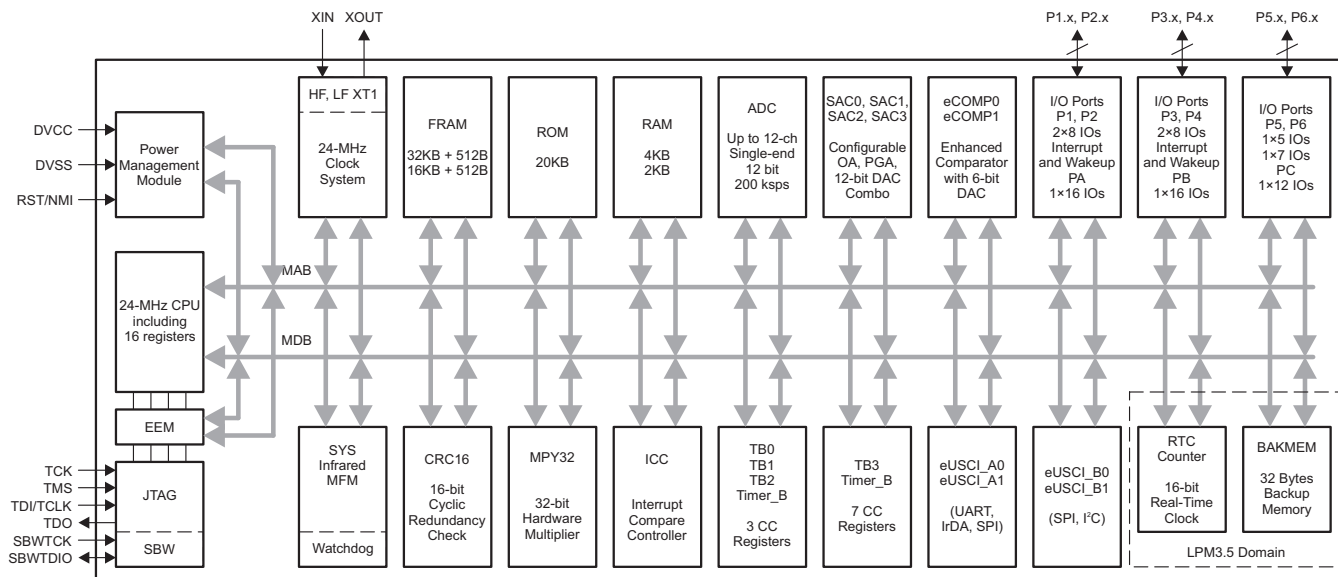
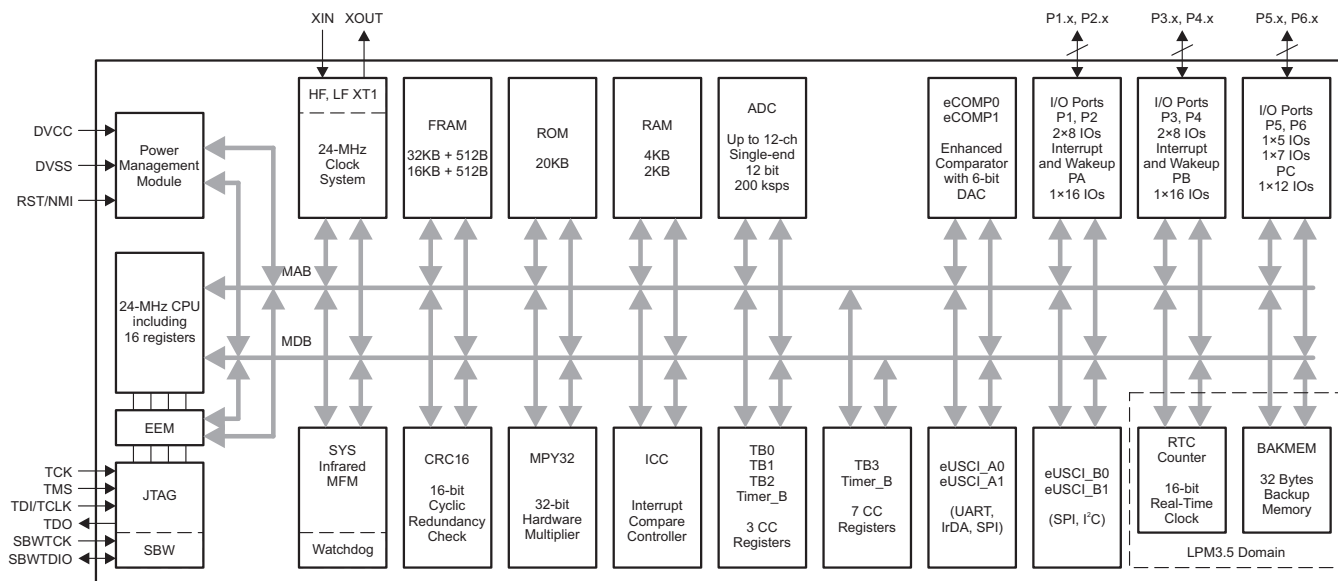

Figure 1-1. MSP430FR235x Functional Block Diagram
Figure 1-2. MSP430FR215x Functional Block Diagram
Figure 1-1 shows the MSP430FR235x functional block diagram.
Figure 1-2 shows the MSP430FR215x functional block diagram.
<ul style="list-style-type: none"> Corrected the ROM size in Figure 1-1 MSP430FR235x Functional Block Diagram and Figure 1-2 MSP430FR215x Functional Block Diagram..... Added a note on all VQFN pinouts to indicate that the thermal pad should be connected to VSS Corrected Figure 4-4, 32-Pin RSM (VQFN) (Top View) – MSP430FR235x..... Changed the note that begins "Supply voltage changes faster than 0.2 V/μs can trigger a BOR reset..." in Section 5.3, Recommended Operating Conditions Added the note that begins "TI recommends that power to the DVCC pin must not exceed the limits..." in Section 5.3, Recommended Operating Conditions Changed the note that begins "A capacitor tolerance of ±20% or better is required..." in Section 5.3, Recommended Operating Conditions Combined former sections 5.8 and 5.10 into Section 5.9, Production Distribution of LPM Supply Currents Corrected the "SVS disabled" condition for Figure 5-1 Added the note "See MSP430 32-kHz Crystal Oscillators for details on crystal section, layout, and testing" to Table 5-3, XT1 Crystal Oscillator (Low Frequency) Changed the note that begins "Requires external capacitors at both terminals..." in Table 5-3, XT1 Crystal Oscillator (Low Frequency) Added the $t_{TB, cap}$ parameter in Table 5-13, Timer_B..... Corrected the test conditions for the R_I parameter in Table 5-20, ADC, Power Supply and Input Range Conditions..... Removed ADCDIV from the equation for the ADC conversion time because ADCCLK is after division in Table 5-21, ADC, Timing Parameters Added the note that begins "$t_{Sample} = \ln(2^{n+1}) \times \tau$..." in Table 5-21, ADC, Timing Parameters Changed the unit from "nV" to "μV" for the "Input noise voltage" in the Table 5-25, SAC, OA Changed the unit from "nV/√Hz" to "nV/√Hz" for the "Input noise voltage density" in the Table 5-25, SAC, OA Removed the I_{ref} trim parameter from Table 5-27, FRAM Changed the bitfield name from RTCCLK to RTCCCKSEL in the table note on Table 6-9, Clock Distribution Added Section 6.10.17, Cross-Chip Interconnection (SACx are MSP430FR235x Devices Only) Added P1SELC information in Table 6-41, Port P1, P2 Registers (Base Address: 0200h) Added P2SELC information in Table 6-41, Port P1, P2 Registers (Base Address: 0200h) Added P3SELC information in Table 6-42, Port P3, P4 Registers (Base Address: 0220h) Added P4SELC information in Table 6-42, Port P3, P4 Registers (Base Address: 0220h) Added P5SELC information in Table 6-43, Port P5, P6 Registers (Base Address: 0240h) Added P6SELC information in Table 6-43, Port P5, P6 Registers (Base Address: 0240h) Changed CRC covered end address to 0x1AF7 in table note (1) in Table 6-70, Device Descriptors 	<p>4</p> <p>11</p> <p>13</p> <p>27</p> <p>27</p> <p>27</p> <p>31</p> <p>31</p> <p>35</p> <p>35</p> <p>45</p> <p>51</p> <p>51</p> <p>55</p> <p>55</p> <p>57</p> <p>68</p> <p>83</p> <p>86</p> <p>86</p> <p>87</p> <p>87</p> <p>87</p> <p>87</p> <p>107</p>